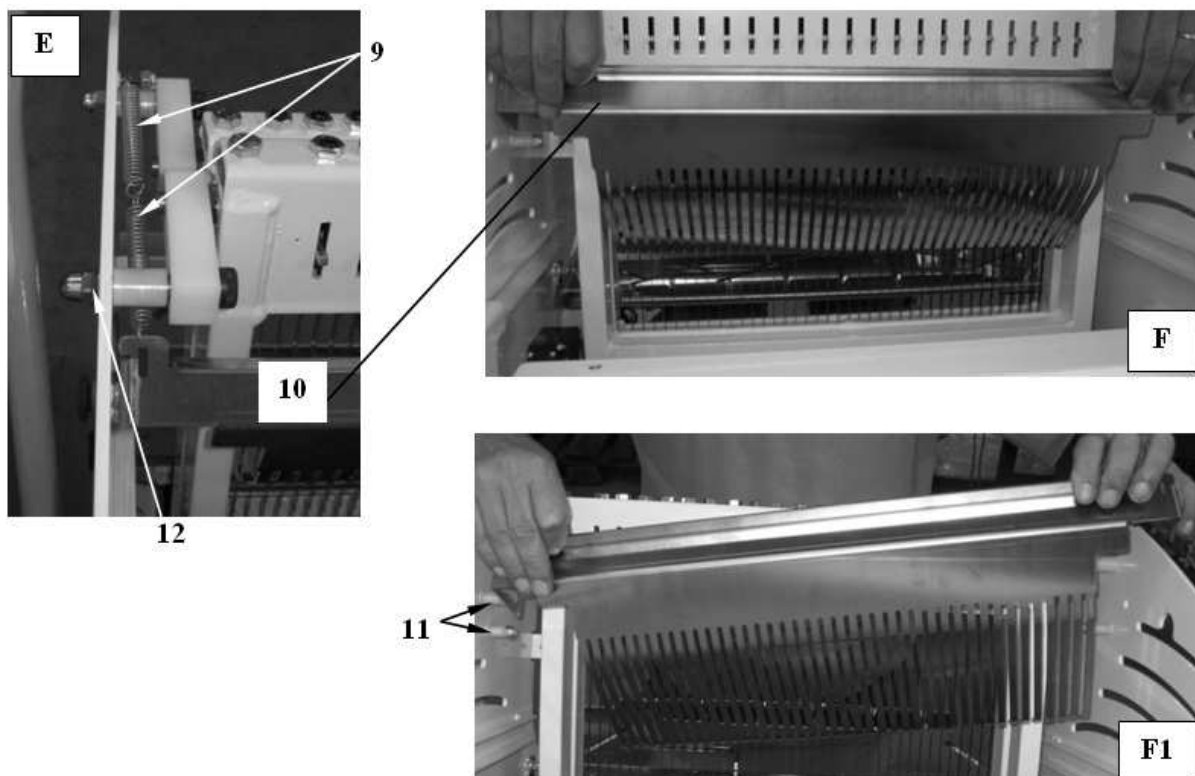

Figure 15
5. with a pair of pincers, detach the springs, ref. 9 (in the most recent versions there is only one spring) from the hooking point on the presser comb ref.10 Photo E/F Figure 15
6. slightly raise the comb ref. 10 Photo F, extracting it from the support pins at the sides ref. 11 Photo F1 and taking care not to damage the blades
7. remove the two nuts and washers ref.12 on both sides of the machine, extract the pins and spacers from the connecting rods